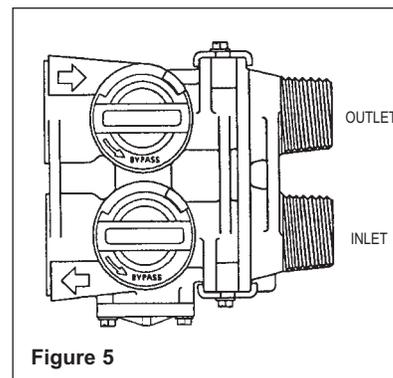

Figure 5
3. Cut main supply line as required to fit plumbing to control valve and attach the bypass valve (Figure 5).